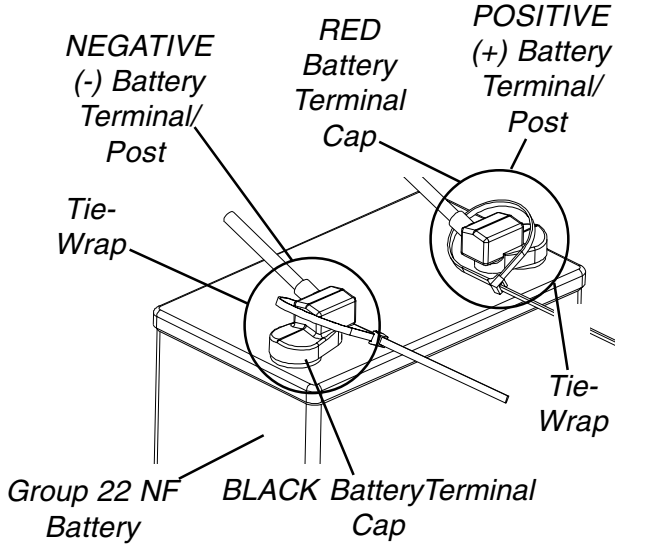

FIGURE 3 - CONNECTING BATTERY CABLES - DIRECT MOUNT METHOD
When connecting the battery cables to the battery(ies), the battery cable(s) MUST be connected to the battery terminal(s)/post(s) as shown in DETAIL "A" or DETAIL "B" of FIGURE 3 (depending on battery type), otherwise damage to the battery cable may result when installing battery terminal caps.
2. Connect battery cable(s) to battery(ies) terminal(s)/post(s) as follows (DETAIL "A" or DETAIL "B" of FIGURE 3, depending on battery type):
3. Secure the battery cable(s)/ring terminal(s) to the battery terminal(s)/post(s), BLACK to NEGATIVE (-) and RED to POSITIVE (+), with the provided 1/4-20 x 7/8-inch hex flange screw and hex flange locknut. Securely tighten. (DETAIL "A" or DETAIL "B" of FIGURE 3, depending on battery type).
5. Slide terminal cap(s) down battery cable(s) and onto battery clamps (FIGURE 3).
6. Secure each terminal cap in place with a tie-wrap (Use tie-wraps 11-1/2-inches long) (FIGURE 3).